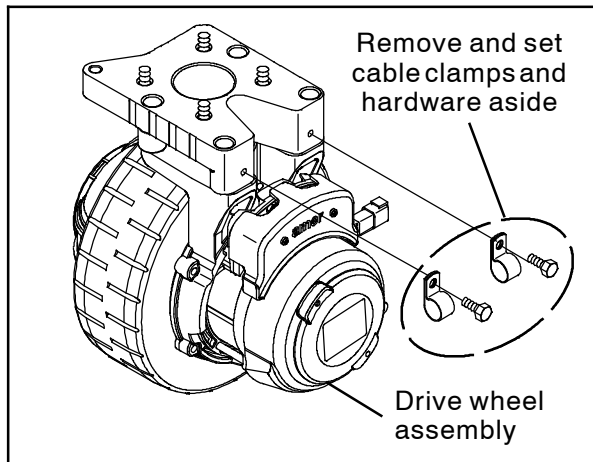

FIG. 1
1. Remove the cable clamps from the drive wheel assembly. Set cable clamps and hardware aside. (Fig. 1)
9. Use the four socket head screws to reinstall the aluminum spacer onto the new drive wheel assembly (1).
10. Install the new drive wheel assembly (1) onto the machine.
12. Insert the main wire harness into the cable clamp and install the cable clamps onto the drive wheel assembly (1). (Fig. 1)